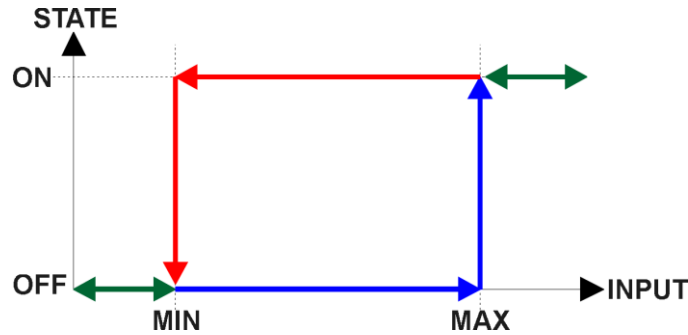

Figure 5 – Analog Input Read as Digital
There is another type of ‘digital’ input that can be selected when 6112h is set to 20 = Analog On/Off. However, in this case, the input is still configured as an analog input, and therefore the objects from the Analog Input (AI) block are applied instead of those discussed above. Here, objects 2020h, 2030h and 6030h are ignored, and 6000h is written as per the logic shown in Figure 5. In this case, the MIN parameter is set by object 7120h **AI Scaling 1 FV**, and the MAX is set by 7122h **AI Scaling 2 FV**.